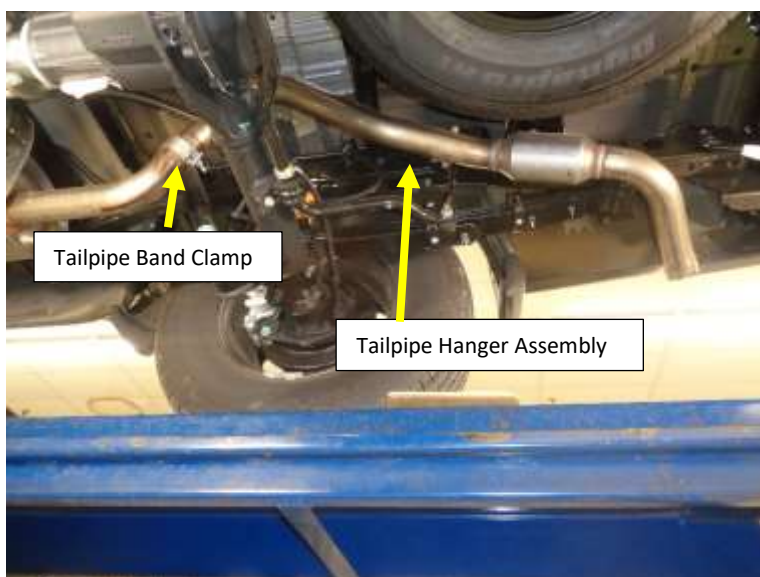

Figure 1
3. Remove the (x3) M8 bolts from the tailpipe hanger assembly bolted to the frame just over the axle. **Fig. 1**
4. Remove the rubber tailpipe hanger and remove the tailpipe. **Fig. 1**